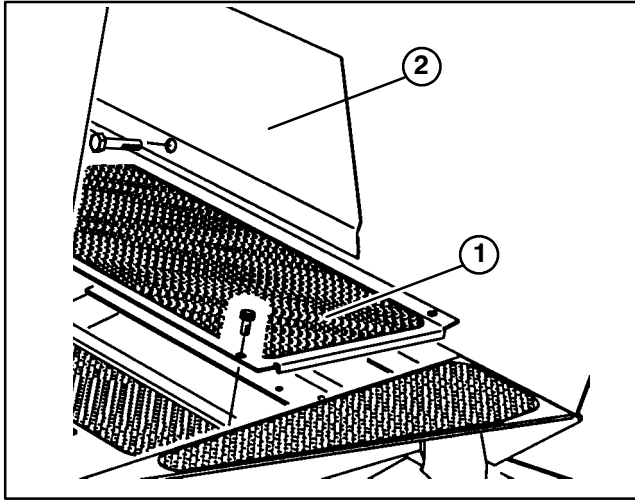

Figure 4
REPLACE PANEL FASTENERS (Fig. 4)
1. Remove fasteners securing left front corner of floor panel and left end of access panel to frame (Fig. 4).
2. Replace floor panel fastener with 5/16–18 x 5/8" lg. flange head capscrew supplied in loose parts (Fig. 4).
3. Replace access panel fastener with 5/16–18 x 3/4" lg. flange head capscrew supplied in loose parts (Fig. 4).